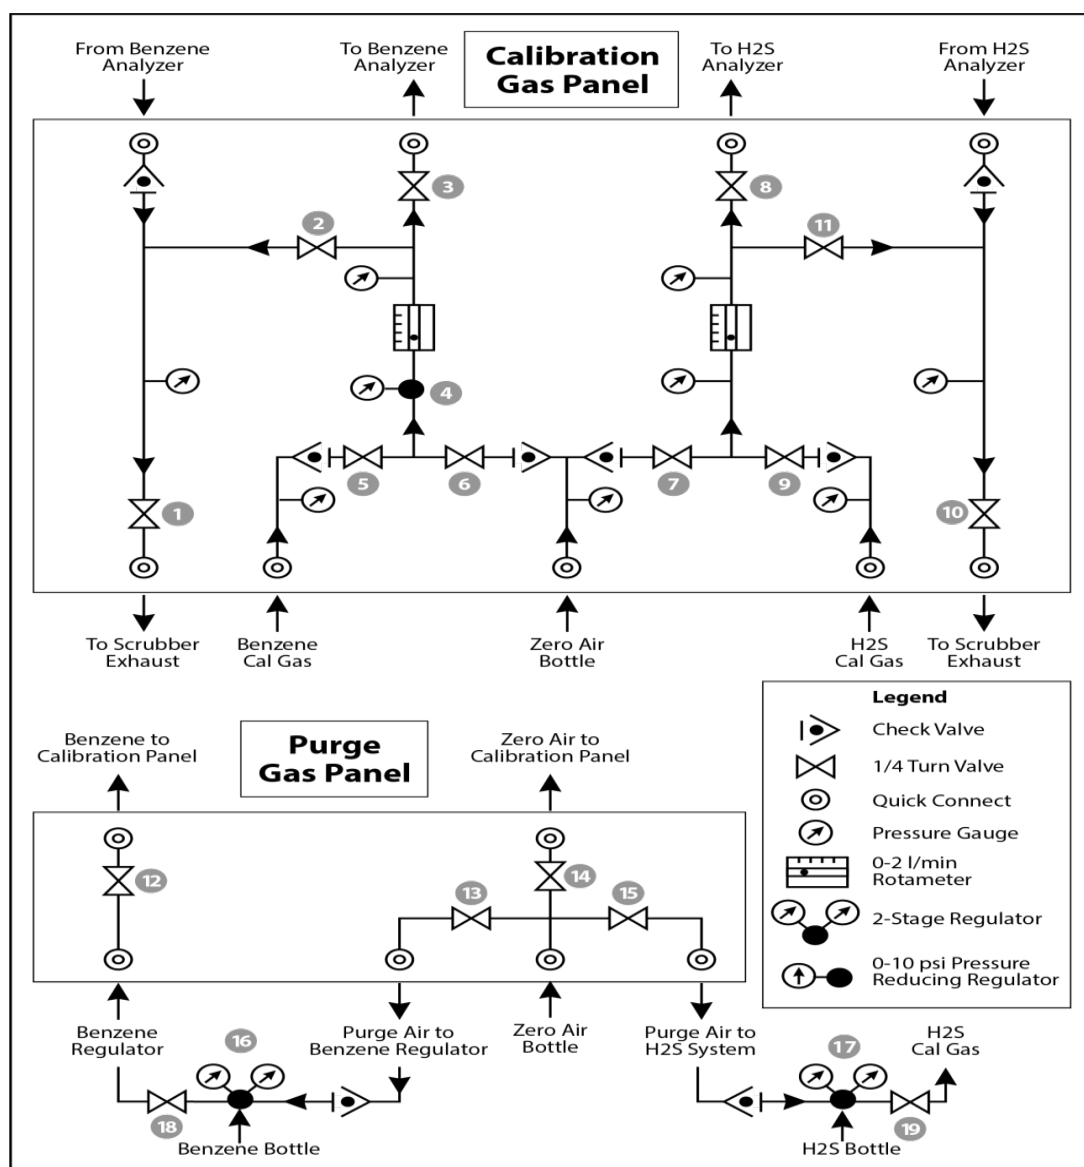

Figure 13. Diagram of the calibration gas panel (top) and purge gas panel (bottom) used for gas delivery.
Set up the apparatus to enable, at a minimum, (a) gas flow to the calibration cell of the instrument and (b) flushing of the cell with zero/clean air. An example system is shown in Figure 13. The advantages of this system are (1) the exhaust from the calibration cell is scrubbed, (2) there are check valves in place to prevent cell overpressure, and (3) the regulator attached to the compressed gas cylinder can be flushed with clean air.
1. Ensure all the tubing from the purging panel is connected to the calibration panel. Ensure gas cylinders are connected to the purge panel as depicted in Figure 13. Then attach the calibration panel to the analyzer connection in the analyzer shelter.
6. Open valve (14) and slowly open the regulator on the zero air cylinder to a pressure of 5-10 psi, observed on the calibration panel zero gas pressure gauge. Do this by making small adjustments at the cylinder regulator and watching the pressure on the calibration panel.
7. Open valve (12) and slowly open the regulator on the benzene cylinder to a pressure of 5-10 psi on the pressure gauge on the benzene calibration gas channel of the panel. Do this by making small adjustments at the cylinder regulator and watching the pressure on the calibration panel.
8. Open the bypass valve (2).
9. Open zero air valve (6) and slowly open the regulator to a final pressure of about 2 psi (as read on cell and exhaust pressure gauges). **DO NOT pressurize above 3 psi.**
10. Now pressurize cell: slowly open the valve going to the cell (valve 3) and close the bypass valve (2) while carefully watching the cell pressure gauge after the regulator (4). If you note any sudden pressure increase, just open the bypass valve (2) to relieve the pressure on the cell. Wait until the same pressure is reached on the pressure gauge of the exhaust side of the calibration panel.
11. Close the zero air valve (6) going to the benzene regulator on the panel so the system is now fully closed off to external pressure.